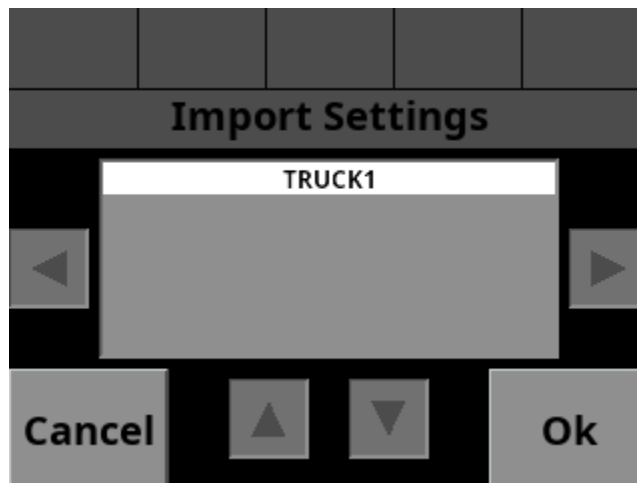

Figure 21: Import Settings screen with File Selector
- STEP 4: Once the 5100ex has found the configuration files, a configuration settings file selection menu will appear, as shown in Figure 21.